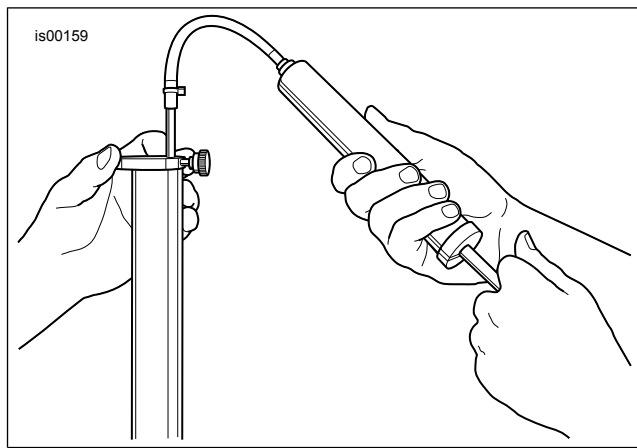

Figure 3. Remove Excess Fork Oil
- a. See Figure 3. Obtain the Front Fork Oil Level Gauge (HD-59000B).
- d. See Figure 3. Insert rod into top of fork tube until metal ring rests flat on top of fork tube.
16. Install fork spring into the fork tube (15) with the dense end down.